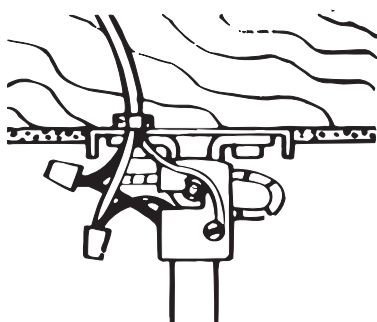

Figure 11
3. Connect the ground wire to the green screw on the side of the hanger bracket. See Figure 11.